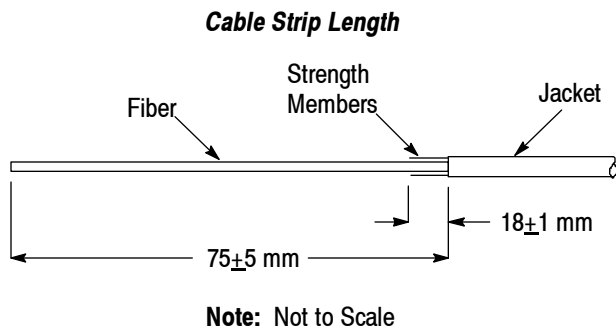

Figure 3
3. Using the cable jacket strip tool, strip the cable jacket to the dimension shown in Figure 3, exposing the strength members and fibers. Retain the stripped piece of cable jacket for later use.